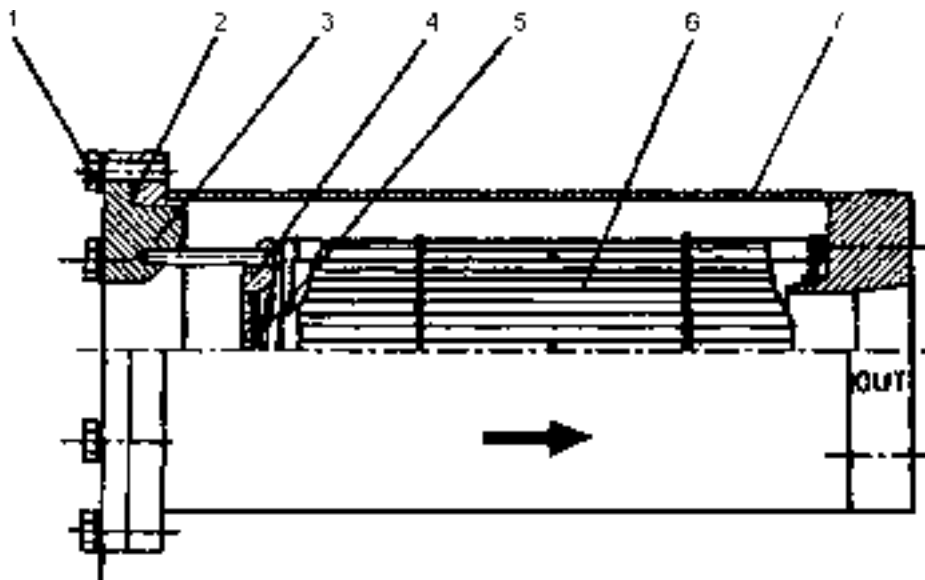

Fig. 5.48. Suction Strainer (cross section)
5. Remove bolts (1, Fig. 5.48) securing filter base (3) and inner/hold-down cover/retainer (4) and spring (5). Remove O-ring (2) and keep it for reassemble. Remove filter element (6). Clean the filter housing (7).
6. Replace the filter element (6, Fig. 5.48). Check and replace the O-ring (2) with a new one if damaged before its installation. Put the new filter element (6) into the filter housing (7). Install the O-ring (2), install the filter base (3), the inner/hold-down cover/retainer (4), spring (5) and secure it with bolts (1).